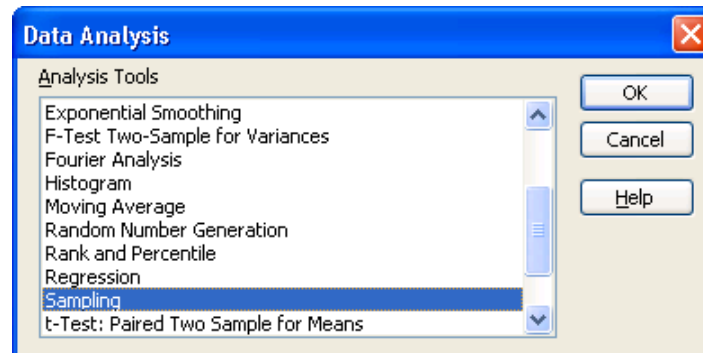

Figure 65.05. The Excel Built-In Sampling Procedure
- (1) Assign a unique numerical serial number to each of the 707 vanpool days.
- (2) Place these serial numbers in a single column of an Excel spreadsheet. Suppose you have placed the vanpool list in range A1:A707.
- (3) Go to **Tools** and **Data Analysis**, select **Sampling**, and click **OK** (Figure 65.05).